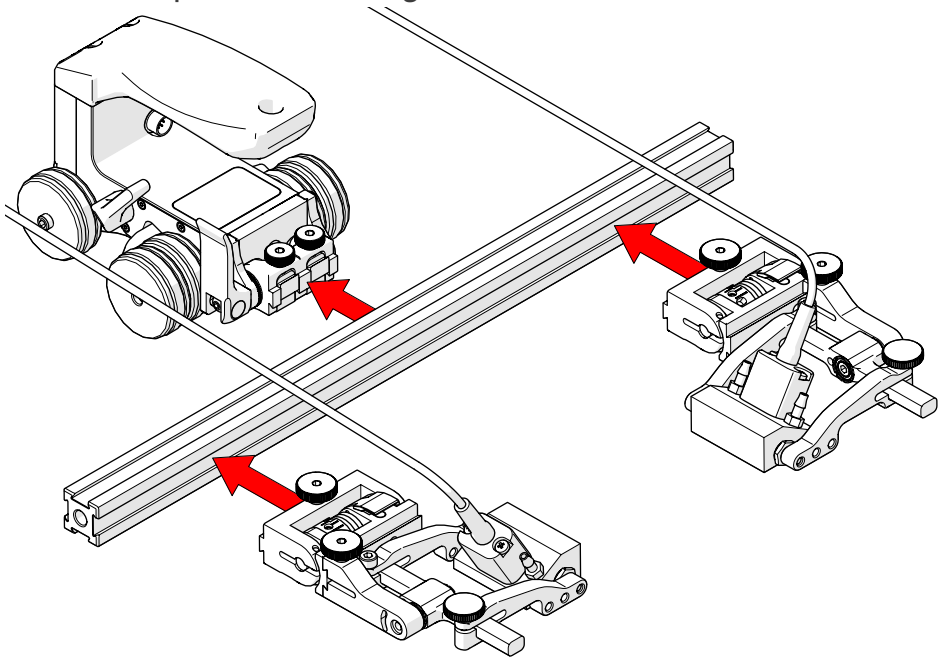

Fig. 76 - Assemble configuration
2. Assemble the appropriate configuration to the cart (Fig. 76).